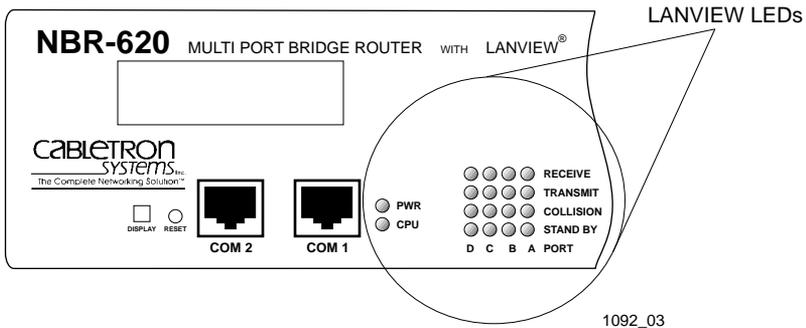

Figure 3-11 NBR LANVIEW LEDs
2. Observe the status of the LANVIEW LEDs on the NBR. When the CPU LED is flashing, the STAND BY LEDs indicate the boot state of the NBR. During this period (up to 5 minutes), the LEDs cycle through a series of internal diagnostics. Figure 3-11 shows the LEDs.